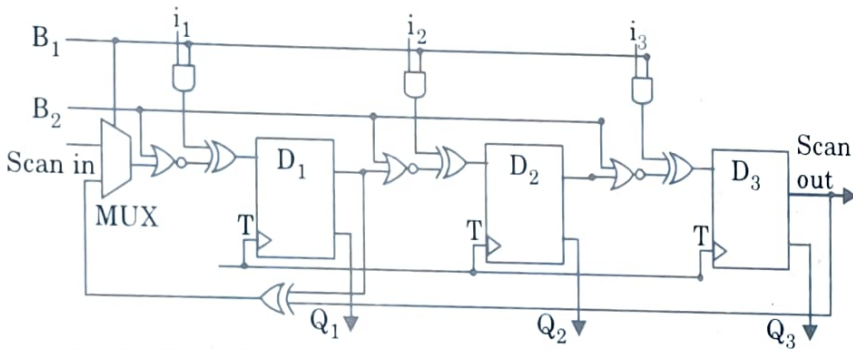

Fig. 5.16.2. Built-in-test-Built-in logic block observer (BILBO).
2. Major component of a BILBO is an LFSR with a few gates. In Fig. 5.16.2 the BILBO is controlled by two signals, B_1 and B_2 which define the modes.